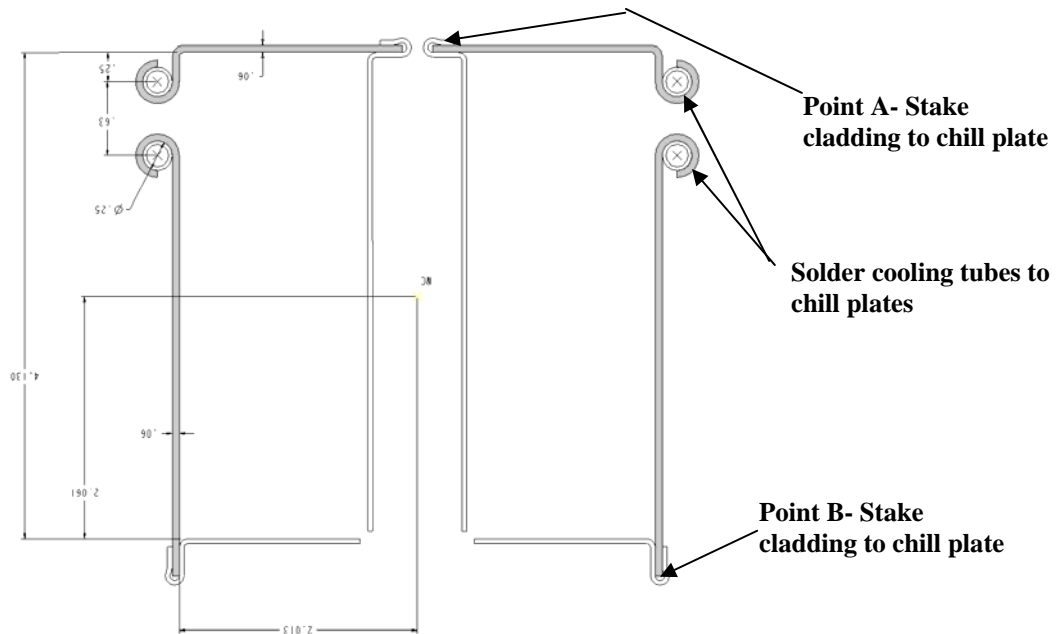

Figure 28- Outer Chill Plates
- 6.29.2.4 The chill plates typically interface with the inner copper cladding at points A and B identified on **Figure 28- Outer Chill Plates**.